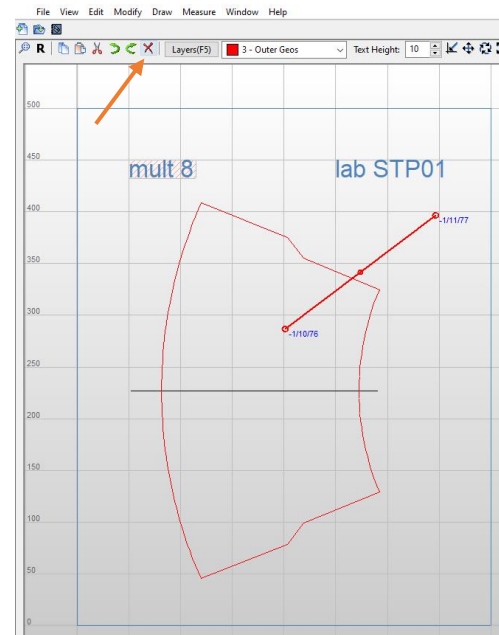

Figure 151
11. **Delete:** Back in the sketcher area select the line causing the error and click  in the Main Toolbar (Figure 151) or press **-DEL-** on our keyboard.